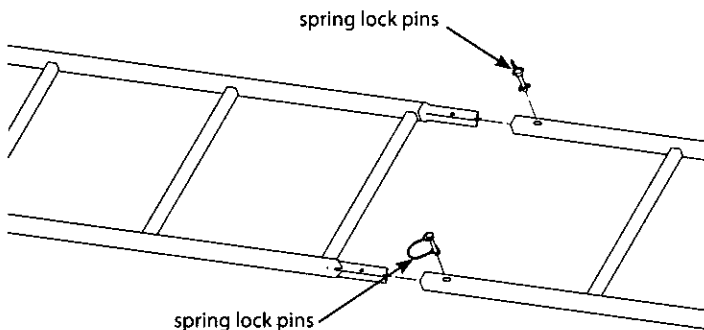

Figure 8
11. With all sections assembled together on ground, secure all sections together using (8) provided spring lock pins. Handle of spring lock pin must be put to the outside of ladder side rails. **SEE FIGURE 8.**